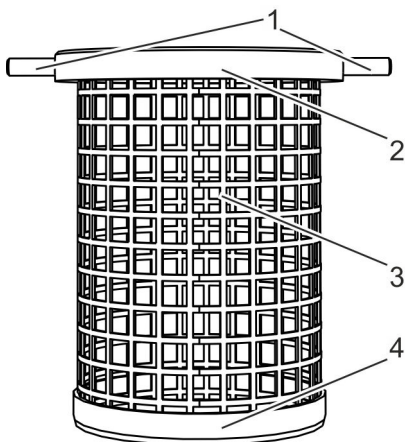
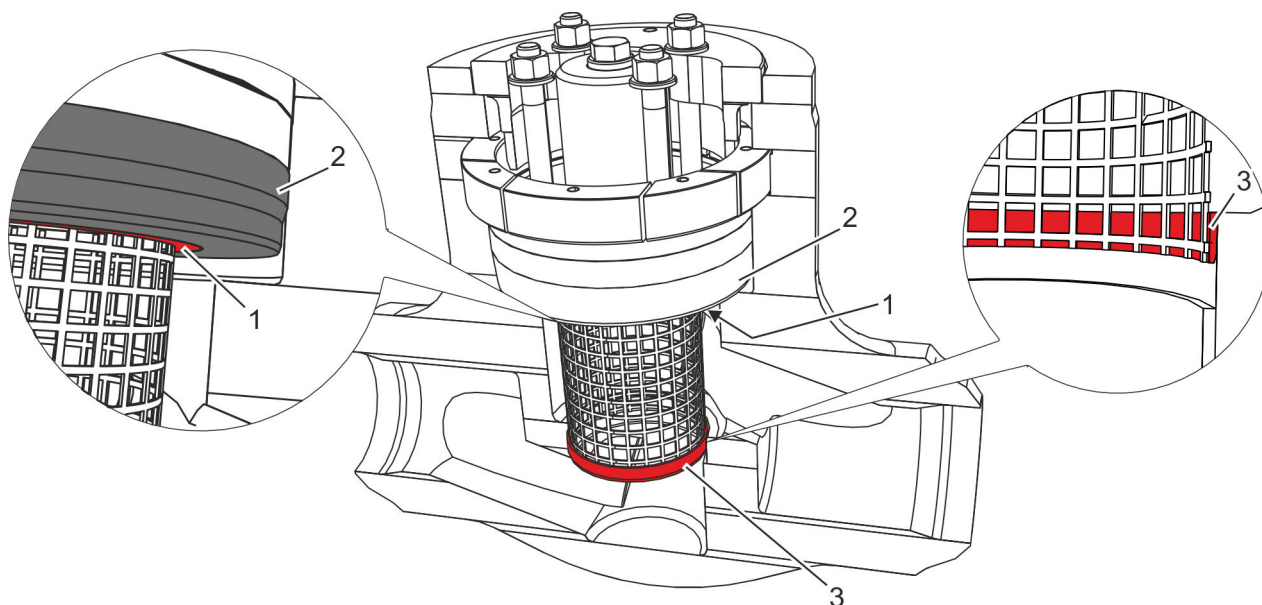

Fig. 8: Screen cylinder (990 SF)
Fig. 9: Fastening the screen cylinder (990 SF)
- the upper centring ring (Fig. 8/2) with 2 threaded pins (Fig. 8/1),
- the screen cylinder (Fig. 8/3) and
- the lower centring ring (Fig. 8/4).
The screen cylinder is bolted to the cover (Fig. 9/2) using the two threaded pins (Fig. 8/1).
The upper (Fig. 9/1) and lower centring ring (Fig. 9/3) seal the screen cylinder, thus preventing the pumped medium from flowing through the body between cover and screen cylinder without foreign objects being retained.